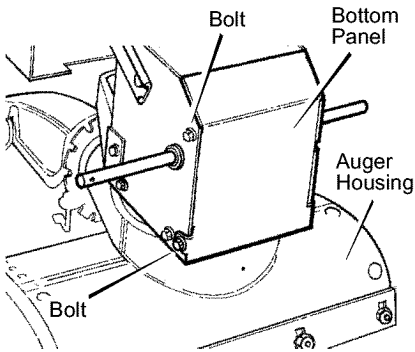

Figure 38
2. Loosen the **bolts** on each side of the **bottom panel** (see Figure 38).
13. Install the **bottom panel** (see Figure 38).
11. Install the **bottom panel** (see Figure 38).